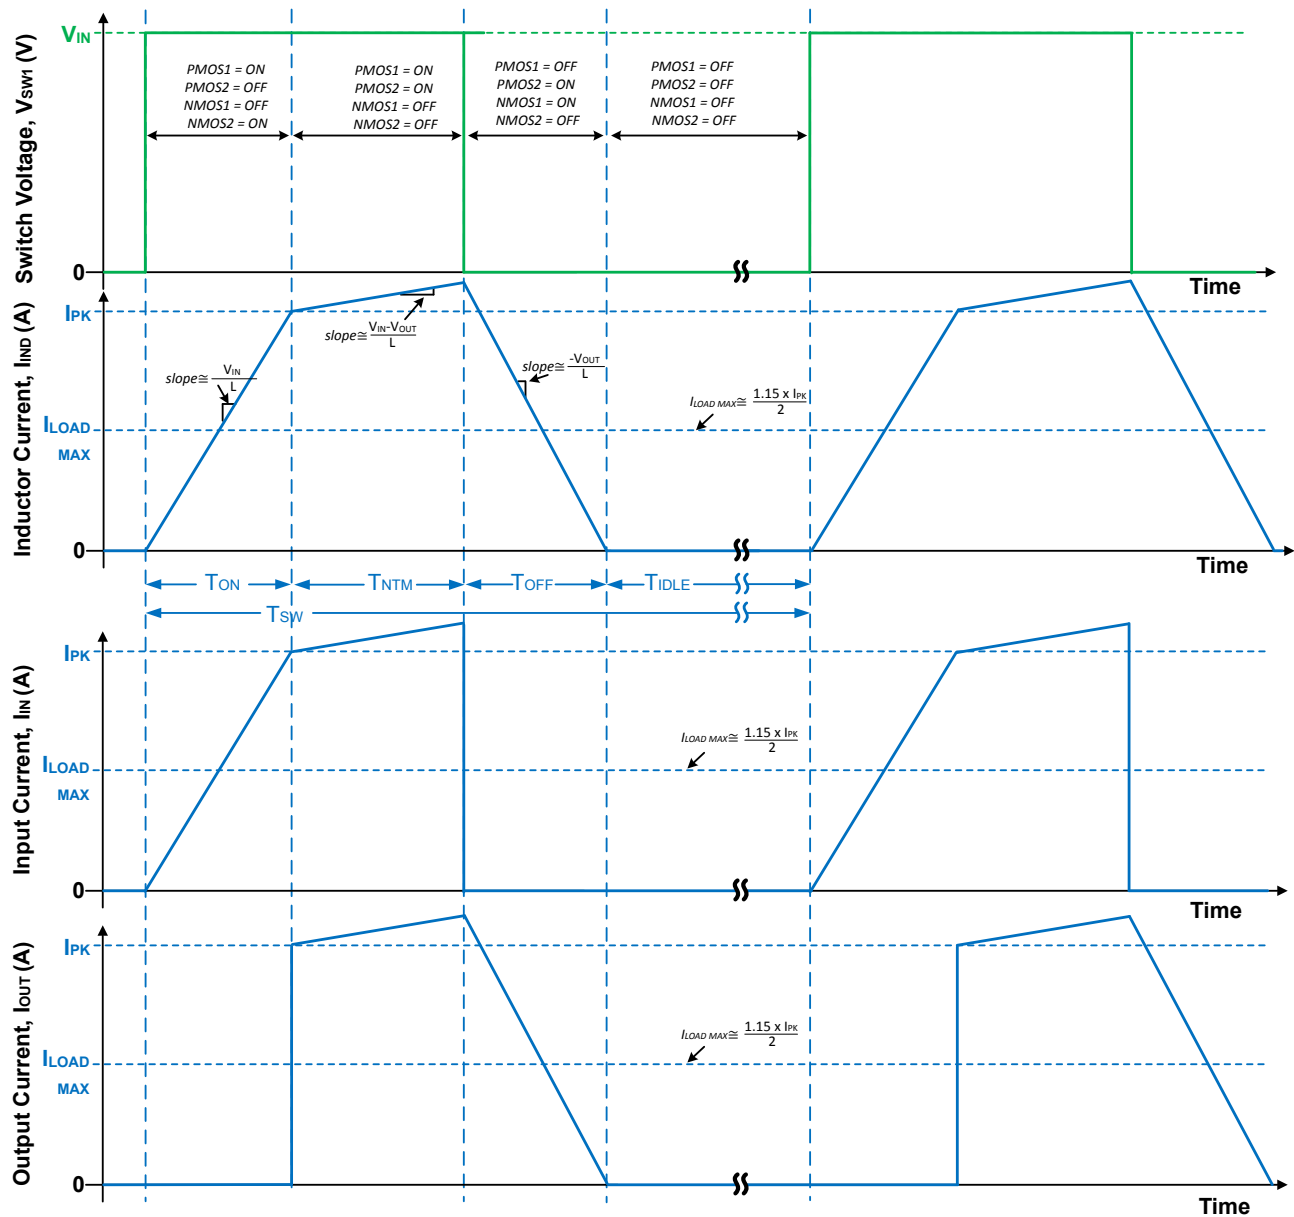
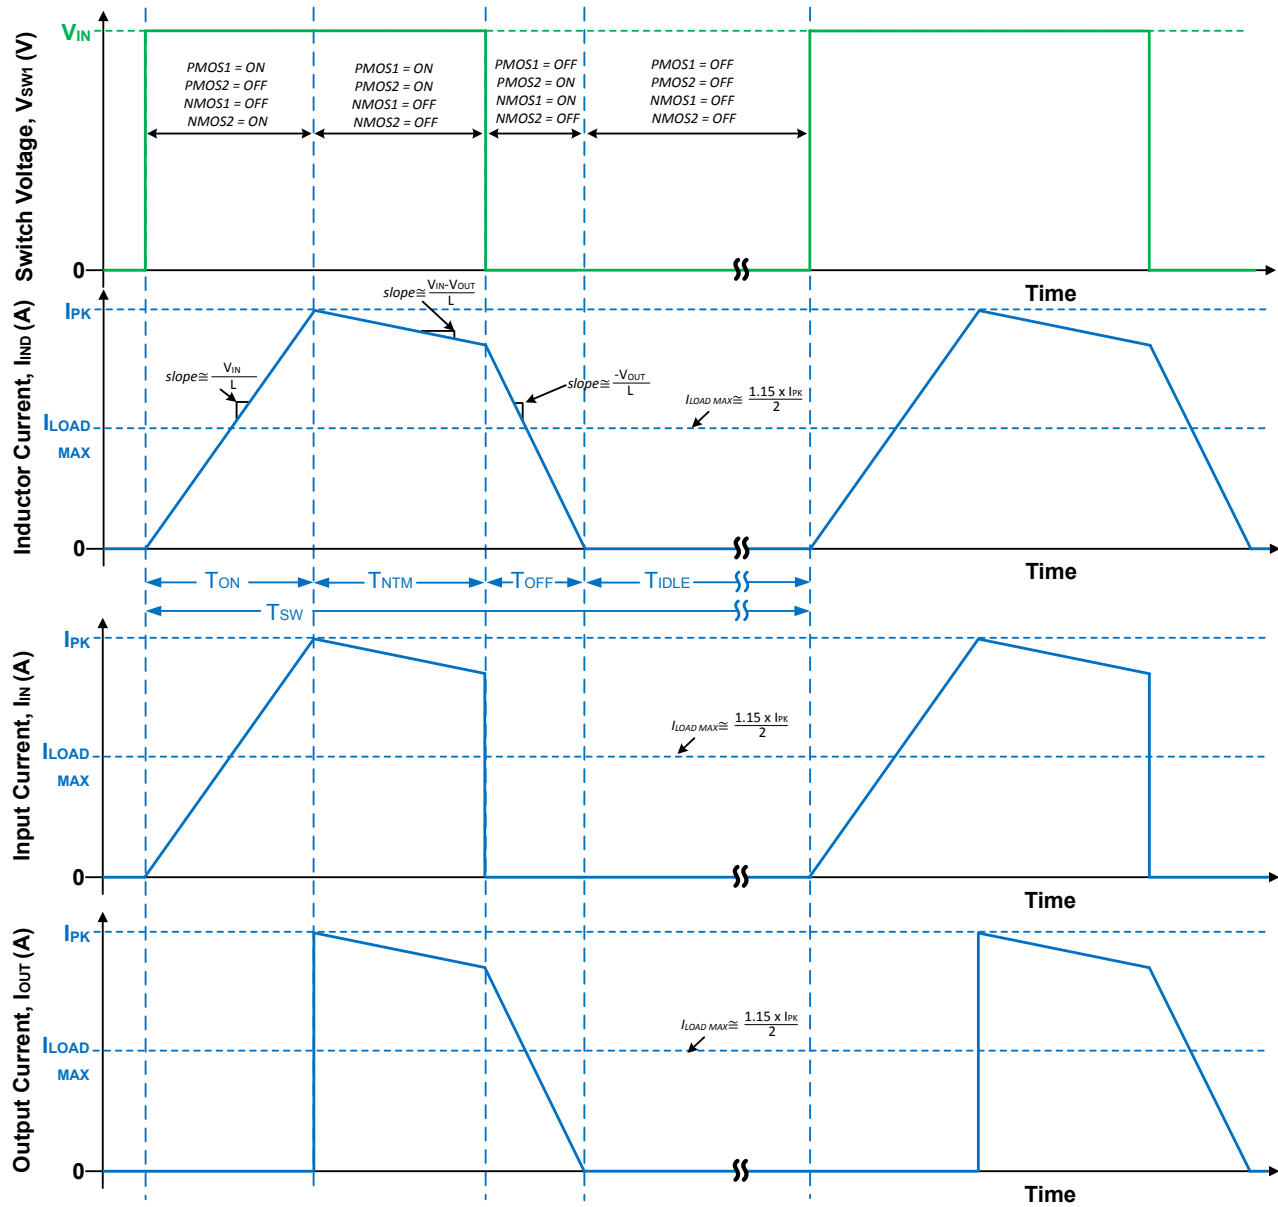

Figure 1.9. Buck/Boost PFM NTM Transition Switching Waveforms ( $V_{in} > V_{out}$ )
Figure 1.10. Buck/Boost PFM NTM Transition Switching Waveforms ( $V_{in} < V_{out}$ )
- Transition mode: When the input voltage is very close to the output voltage (either higher or lower), a special switch mode may be employed. An example of this is shown in the Figure 1.9 Buck/Boost PFM NTM Transition Switching Waveforms \( \$V\_{in} > V\_{out}\$ \) on page 11 and Figure 1.10 Buck/Boost PFM NTM Transition Switching Waveforms \( \$V\_{in} < V\_{out}\$ \) on page 12 figures below